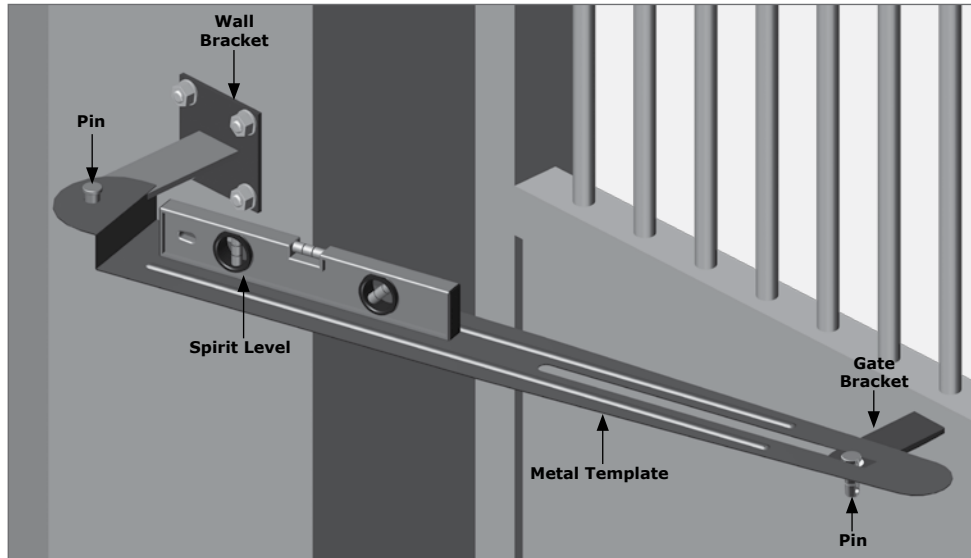

FIGURE 31. MOUNT THE GATE BRACKET
- Holding the Gate Bracket underneath the template (as shown in Figure 31), insert the pin through the slot in the template and into the Gate Bracket